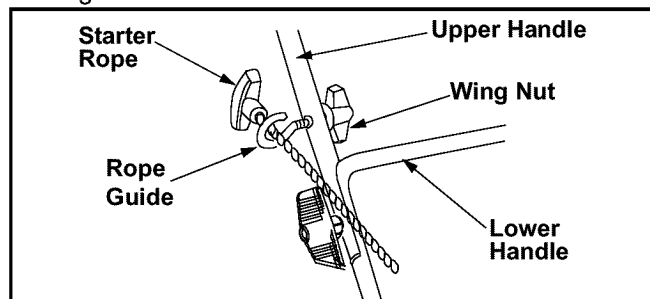

Figure 5
- If not already there, move rope guide to the first hole above the lower handle on right side. The wing nut loosens and secures the rope guide. See Figure 5.